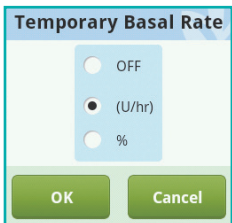

Figure 20
c) Choose the Temporary Basal Rate setting to open a dialog box (Figure 20) that will give you options.